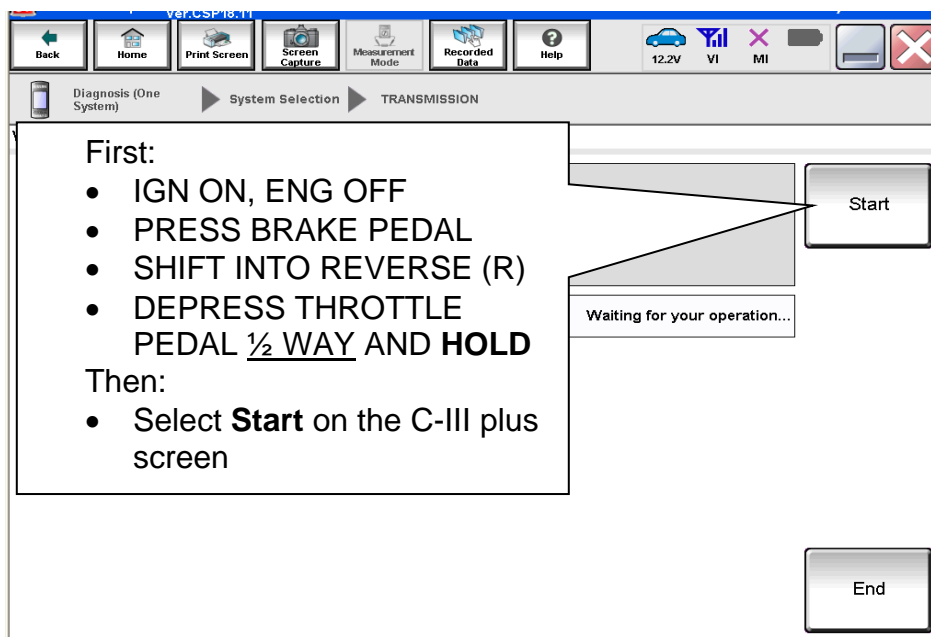

Figure 16
18. Before selecting **Start**, follow the directions in Figure 16.